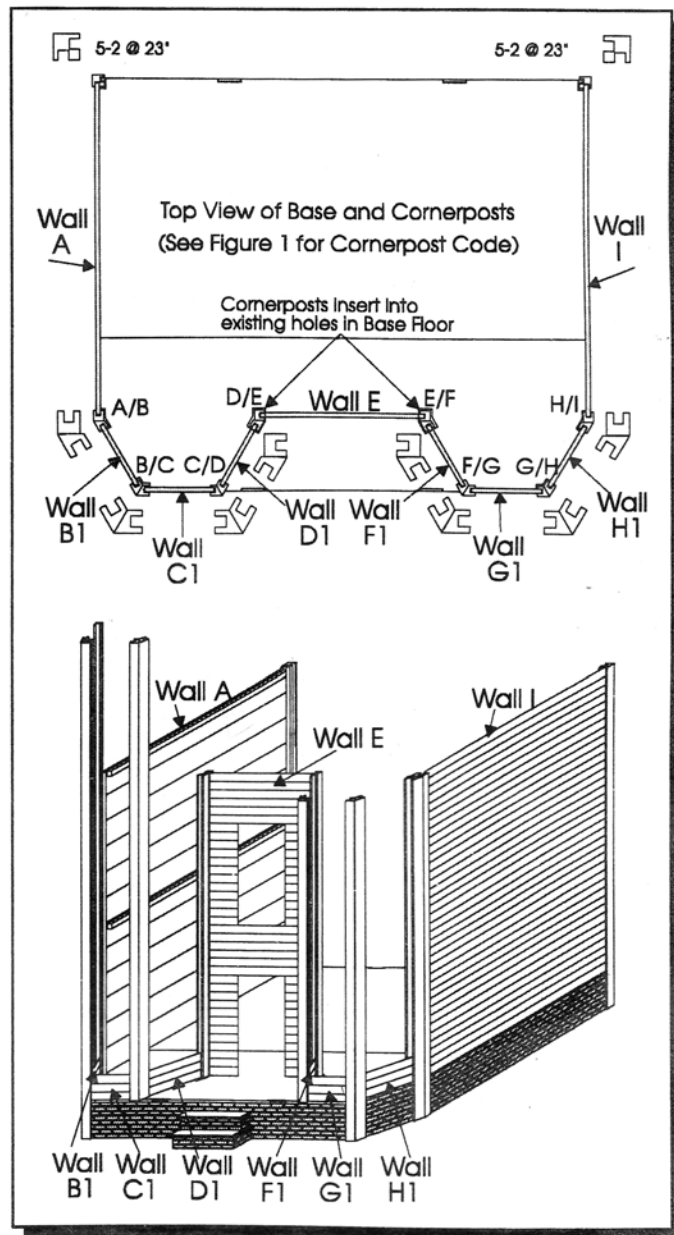

Figure 13
4. Install Siding Walls A, B1, C1, D1, E, F1, G1, H1, and I as shown in Figure 13. Trim the floor opening larger on each side of Wall E and from the notches around the base if needed.